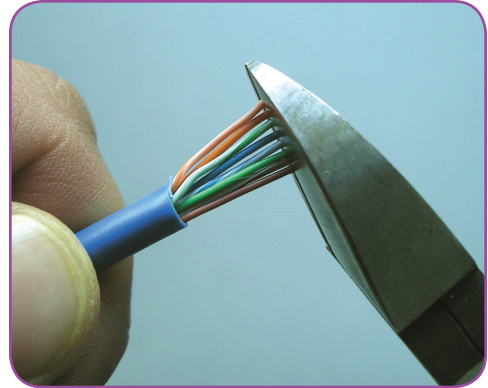

Figure D-7: Trimming the Wires
6. Trim the tips of the wires so they are even (see **Figure D-7**). Make sure there is about 1/2-inch of wire to insert into the connector.